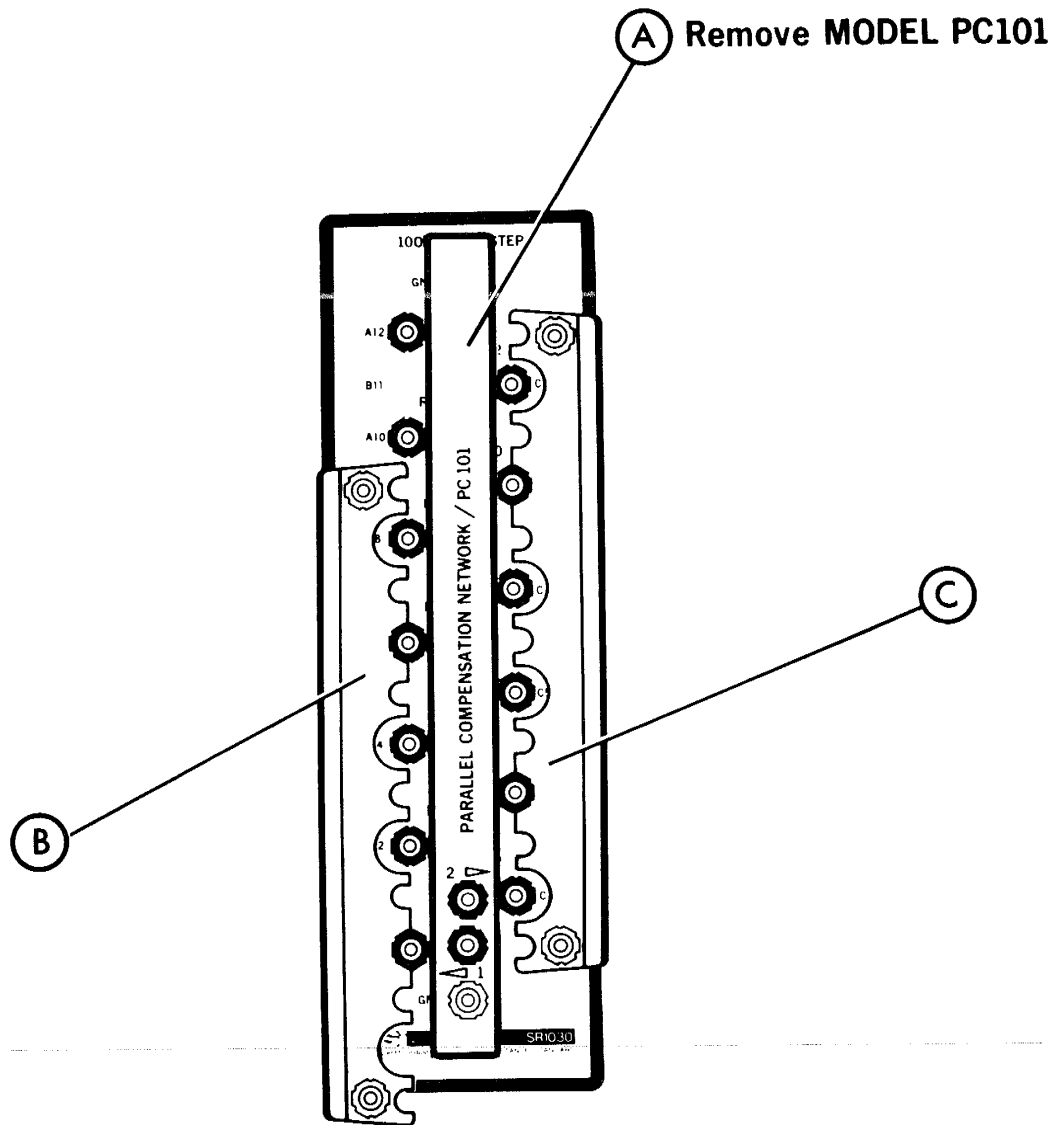

Figure 5-11. Shorting Bar Series Parallel Connection for 100 ohms
10. Connect the shorting bars for a 100 ohm series-parallel connection on the 100 ohm-per-step SR1030. Reference Figure 5-11.